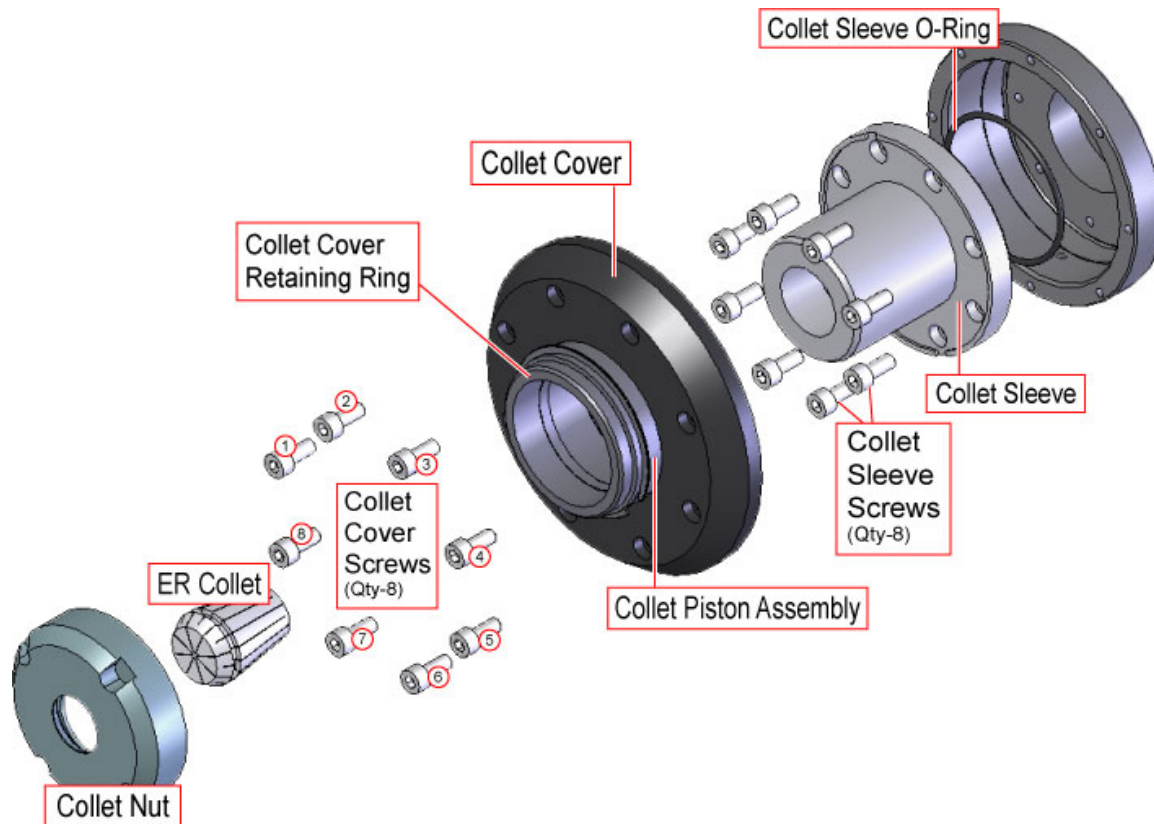

Figure 4-1: Piston Seal Change Exploded View
The seals on the collet piston may be replaced if a leak or excess wear becomes apparent. Figure 4-1 shows an exploded view of the assembly and includes all parts involved in the process. The procedure to change the seals is as follows.
- Step 5: Refer to Figure 4-1. Remove every other collet cover screw (i.e., screws 1, 3, 5, and 7). All screws cannot be removed at once, as the cap is under tension from several springs and will be damaged or cause bodily harm if removed without caution.